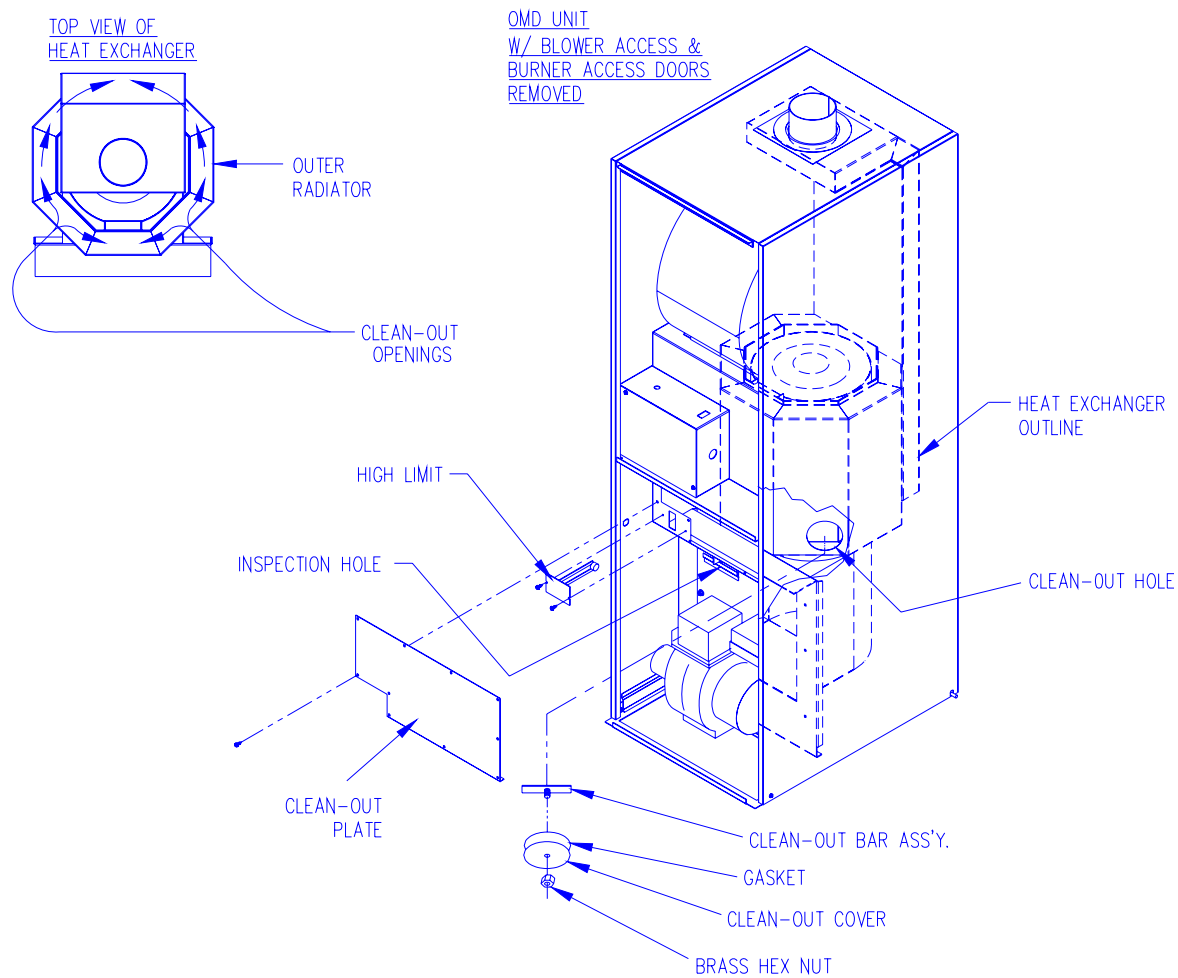

Figure 8.
2. Remove the clean-out plate, immediately above the burner (refer to Figure 8), to gain entry to the cleanout covers.
To vacuum and brush the outer radiator of the heat exchanger, go through the cleanout openings in both directions, as shown in Figure 8.